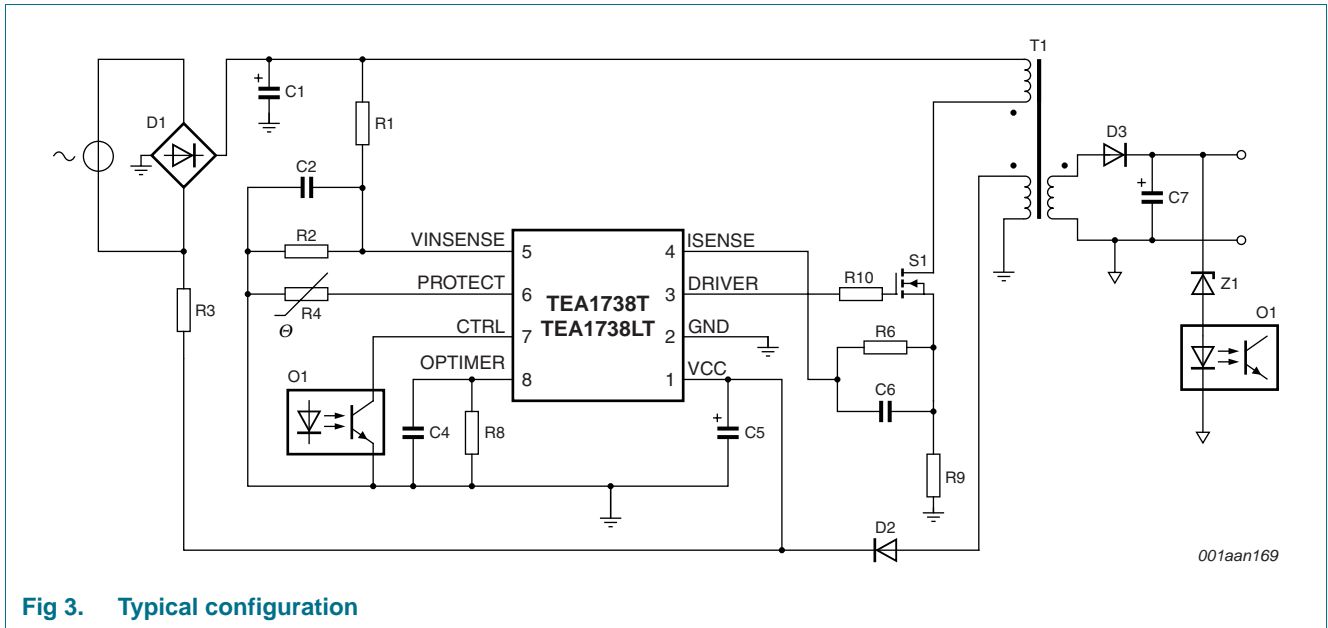
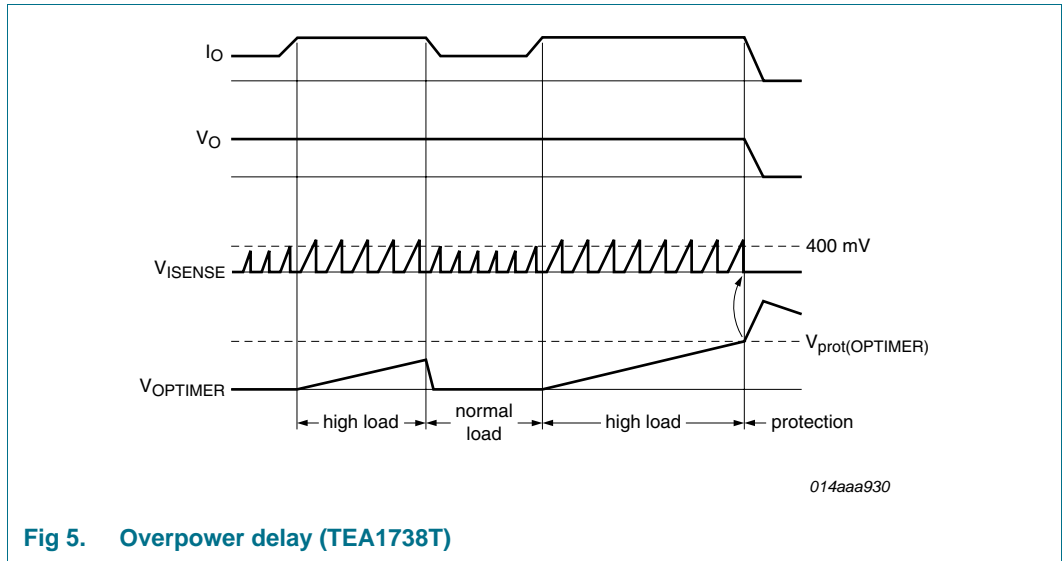
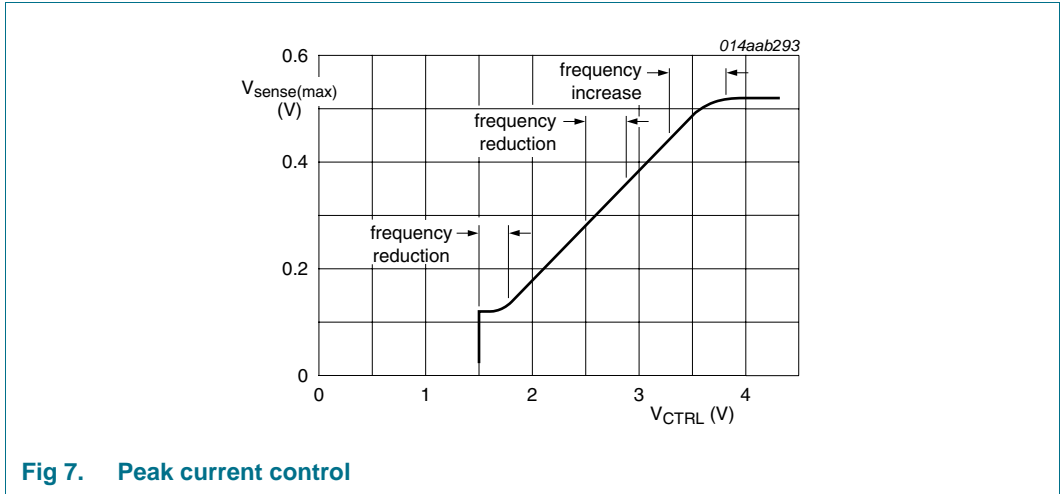

Fig 3. Typical configuration
Fig 5. Overpower delay (TEA1738T)
Fig 7. Peak current control
The TEA1738(L) contains a flyback circuit controller, a typical configuration of which is shown in Figure 3.
If the OPTIMER pin is connected to capacitor C4 (see Figure 3), a temporary overload situation is allowed. $V_{\text{ctrl}(I_{\text{peak}})}$ (see Figure 1) is set by pin CTRL. When $V_{\text{ctrl}(I_{\text{peak}})}$ is above 400 mV, the $I_{\text{IO}(\text{OPTIMER})}$ current (11 μA typical) is sourced from the OPTIMER pin. If the voltage on the OPTIMER pin reaches the $V_{\text{prot}(\text{OPTIMER})}$ voltage (2.5 V typical) the OverPower Protection (OPP) is triggered (see Figure 5).
The primary current is sensed by the ISENSE pin across external resistor R9 (see Figure 3) and compared with an internal control voltage. The internal control voltage is proportional to the CTRL pin voltage (see Figure 7).
A soft start is performed to prevent audible noise during start-up or a restart condition. Before the converter (re)starts, soft start capacitor C6 (see Figure 3) on the ISENSE pin is charged. When the converter (re)starts switching, the primary peak current slowly increases as the soft start capacitor discharges through the soft start resistor (R6, see Figure 3).
The switching frequency is increased for peak power operation. In medium power operation the switching losses are reduced by lowering the switching frequency. A second frequency reduction step is made when the output power is reduced to low power. In low power operation the converter switching frequency is reduced while the peak current is set to 25 % of the maximum peak current (see Figure 7 and Figure 10).